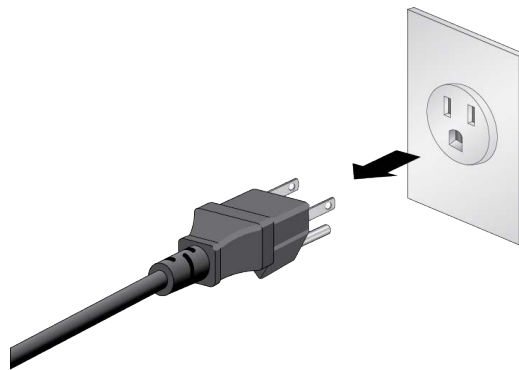

Figure 76. Powering Off the Switch
1. Power off the switch by disconnecting its AC power cords from the AC power sources. Refer to Figure 76 on page 153.